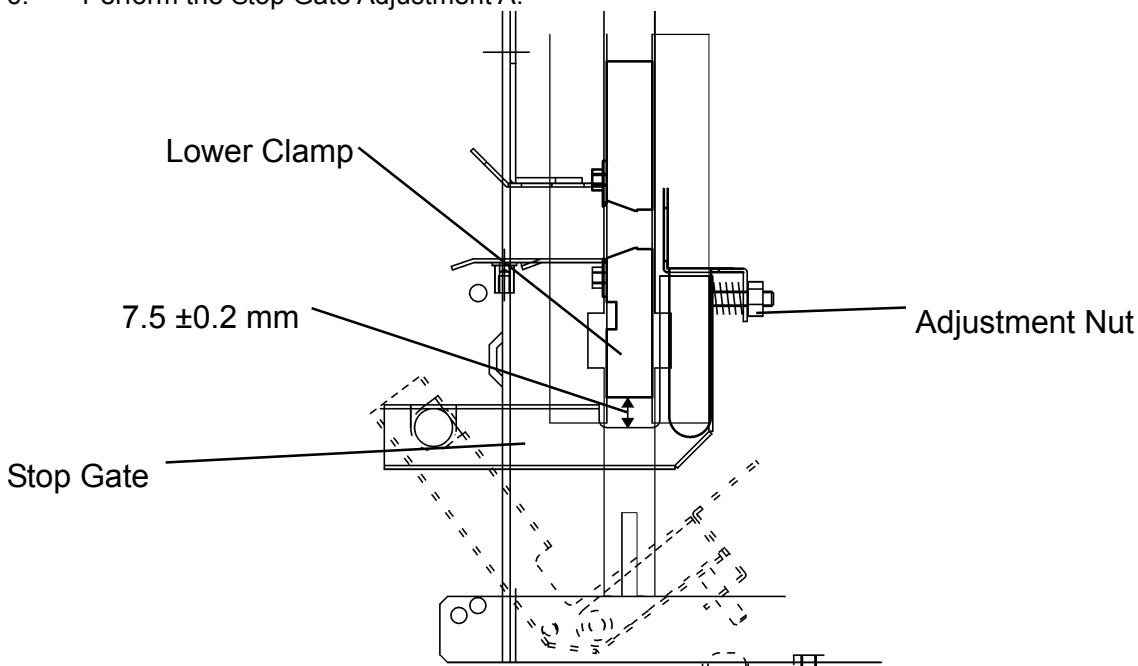

FIGURE 1
4. Measure between the Lower Clamp and the stop gate on one side only (which side does not matter). The distance should be 7.5 ± 0.2 mm. **FIGURE 1**
2. Make sure the DIP switches are in off position **FIGURE 1**
- Make sure that the E-Clips are properly installed. 2.4.4, Figure 1.